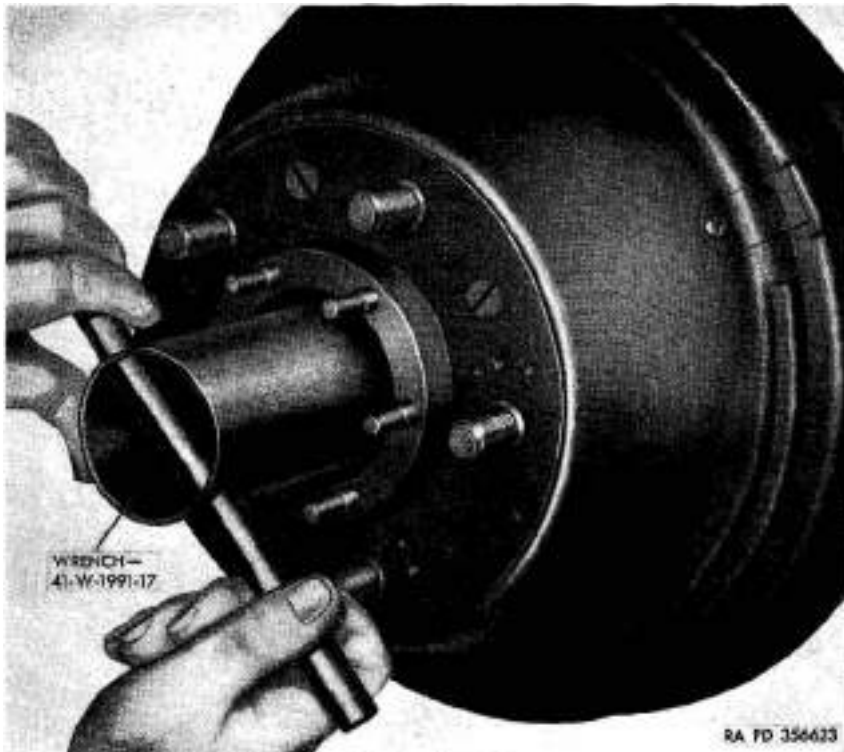
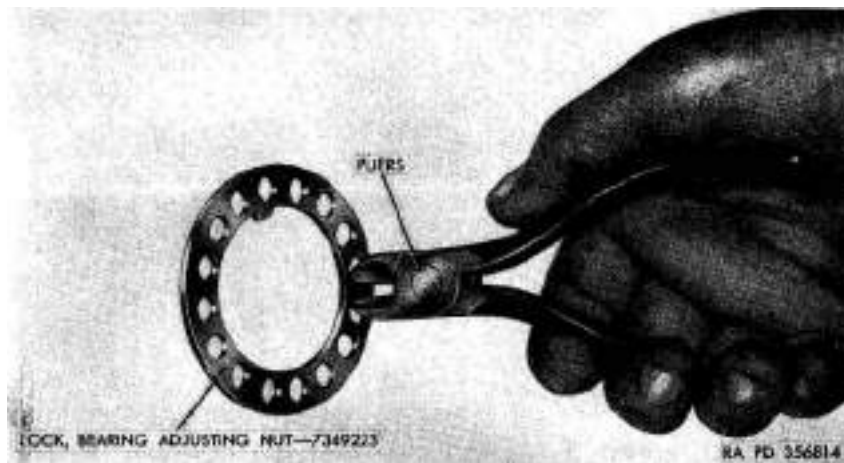

Figure 46. Removing bearing adjusting nuts.
Figure 47. Handling bearing adjusting nut lock with pliers.
- (2) Remove nuts and lock washers from drive flange studs.
- (3) Loosen nuts and remove puller set screws from drive flanges. Remove nuts from screws and install screws in drive flanges.
- (4) Pull each flange from hub studs by tightening puller screws.
b. Remove Hub With Brake Drum Assemblies. Remove right and left bearing outer adjusting nuts with wrench 41-W-1991-17 (fig. 46). Remove right and left bearing adjusting nut locks with diagonal-cutting pliers (fig. 47). Remove right and left bearing inner adjusting nut assemblies with wrench 41—W--1991-17 (fig. 46). Remove hub outer bearing cones and hub with brake drum.